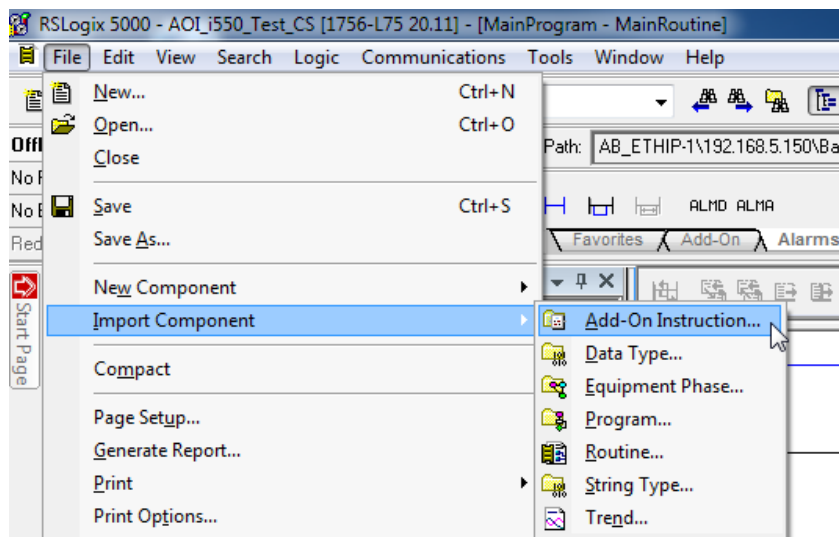

Figure 15: Insert Add-On Instruction
- 1) Insert i550_ActuatorSpeed Add-On Instruction (AOI) into project from file. See Figures 15, 16. Note: It is only necessary to insert this once per project.